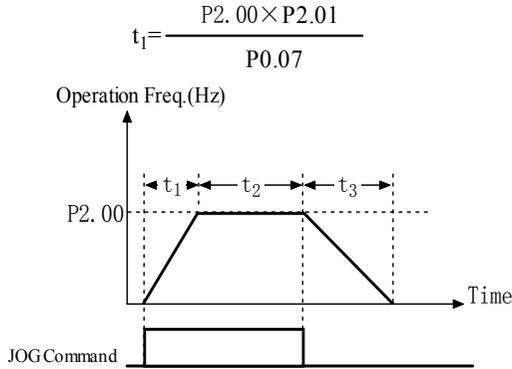

Fig. 5-2-1 JOG Running
- ◆ As shown in Fig. 5-2-1,  $t_1$  is Acc time of Jog and  $t_3$  is Dec time of Jog  $t_2$  is the Jog time; P2.00 is the Jog frequency.